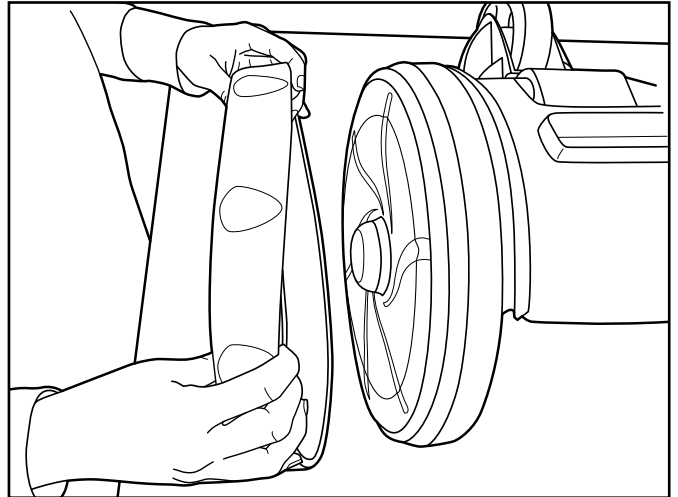

Figure 19. Tyre Replacement Orientation
3. To replace the tyre, position the new tyre on the wheel making sure to orient the tyre so that the tyre groove pattern is on the outer side of the wheel. See Figure 19.